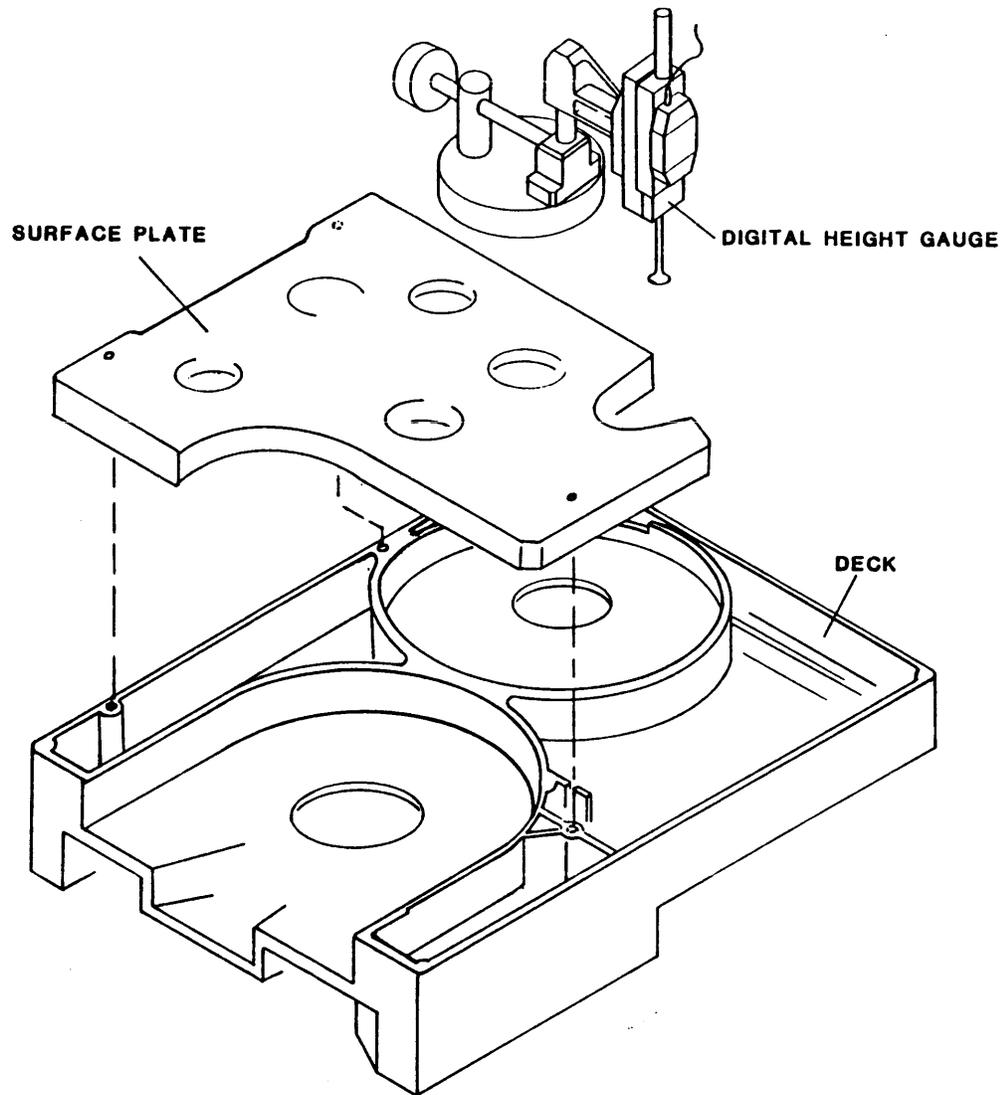

Figure 5-29. Tape Rollers Height Adjustment
5.4.2 BUFFER ARMS ADJUSTMENT**5.4.2.1 BUFFER ARM ROLLERS & FIXED ROLLERS HEIGHT ADJUSTMENT (Figure 5-29)**
2. Place the Surface Plate on the topside of the Deck, insuring that the two locating pins are in the holes provided on the Deck. Place the Height Gauge on the Surface Plate to begin tape path alignment. Verify distance from 0.500" spacer to top of split guide (supply side) is within tolerance ($.7745 \pm .0010$). See Figure 5-29.
3. Position Height Gauge so indicator pad contacts the top surface of the split tape guide on the supply side of the Head. Zero the Height Gauge. See Figure 5-29. Raise and lower deck gently until digimatic reading repeats to zero. Check the height of Collets and record the readings on data sheet. Re-set Collets to meet the required dimension. Torque the Collet Screw to 19-21 in-lbs. Re-assemble Supply Hub and Take-up Reel and torque the screw to 18-20 in-lbs.